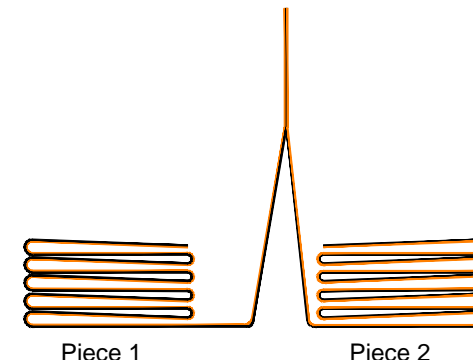

FIGURE 3
2. LIFT UP THE FLIP FOLD OF PIECE 1 AND THE TOP PANEL OF PIECE 2 HOLDING THE PANELS TOGETHER BLACK TO BLACK, (FIGURE 3)